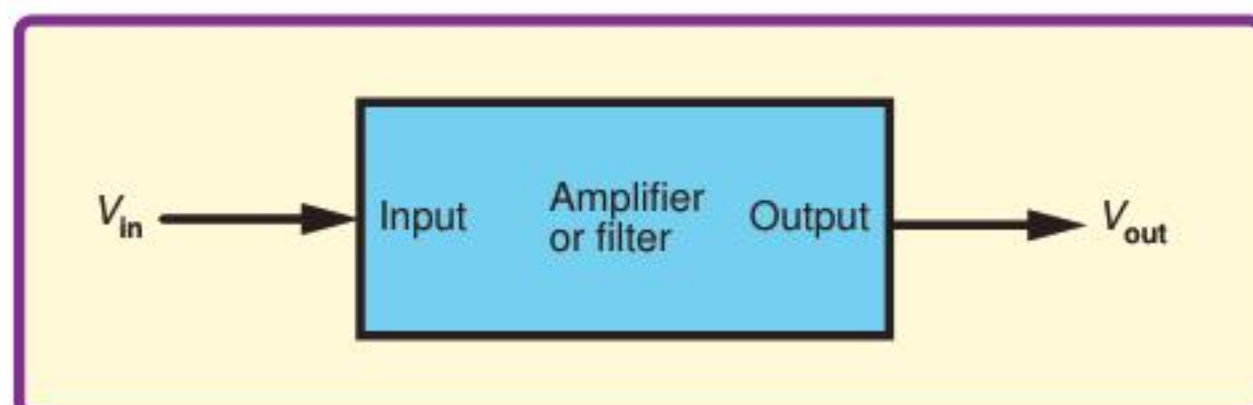
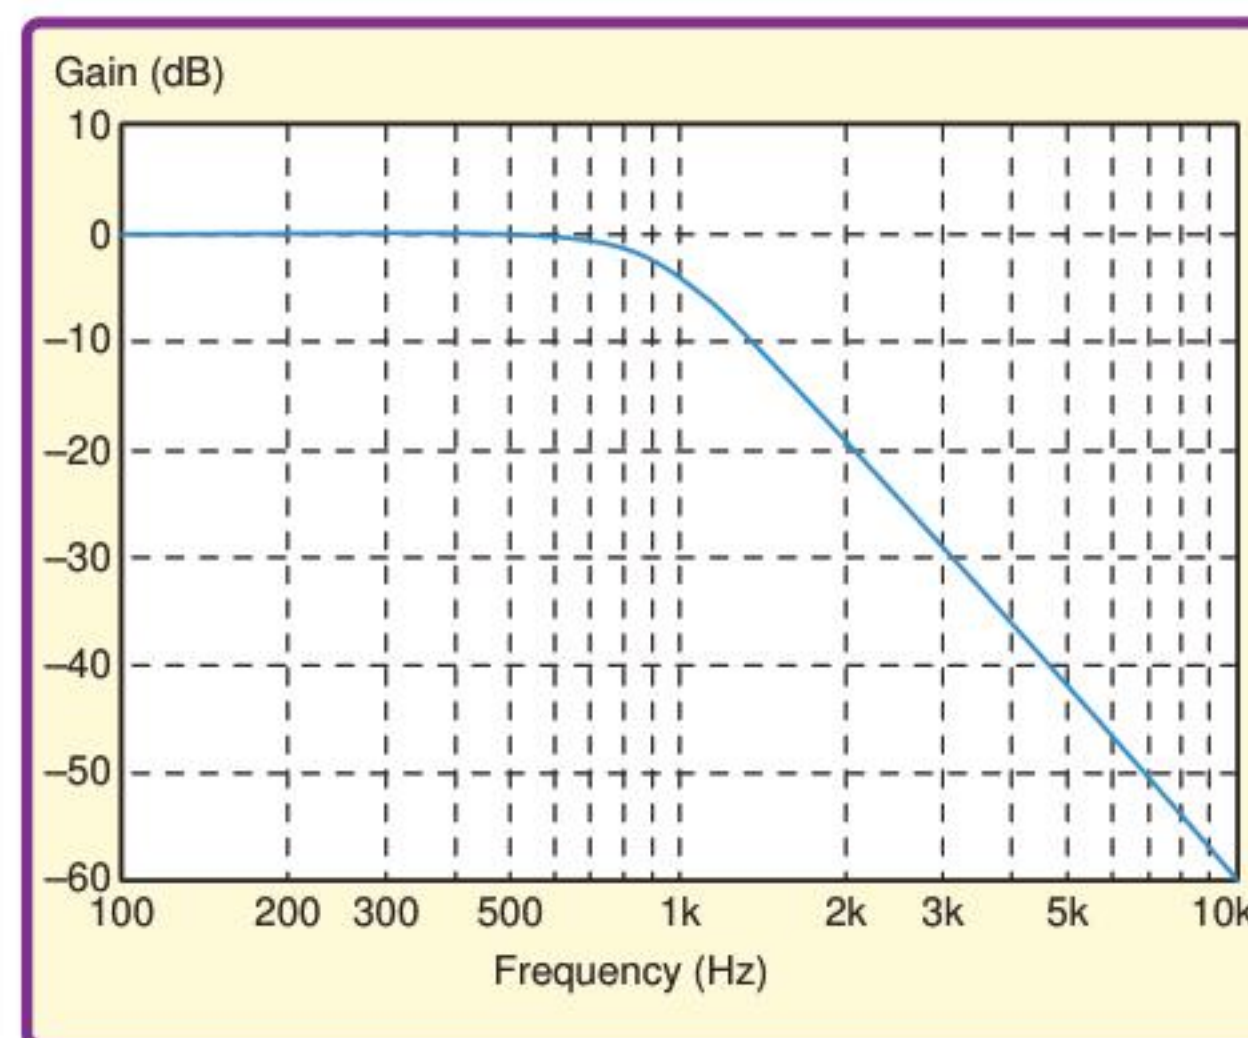
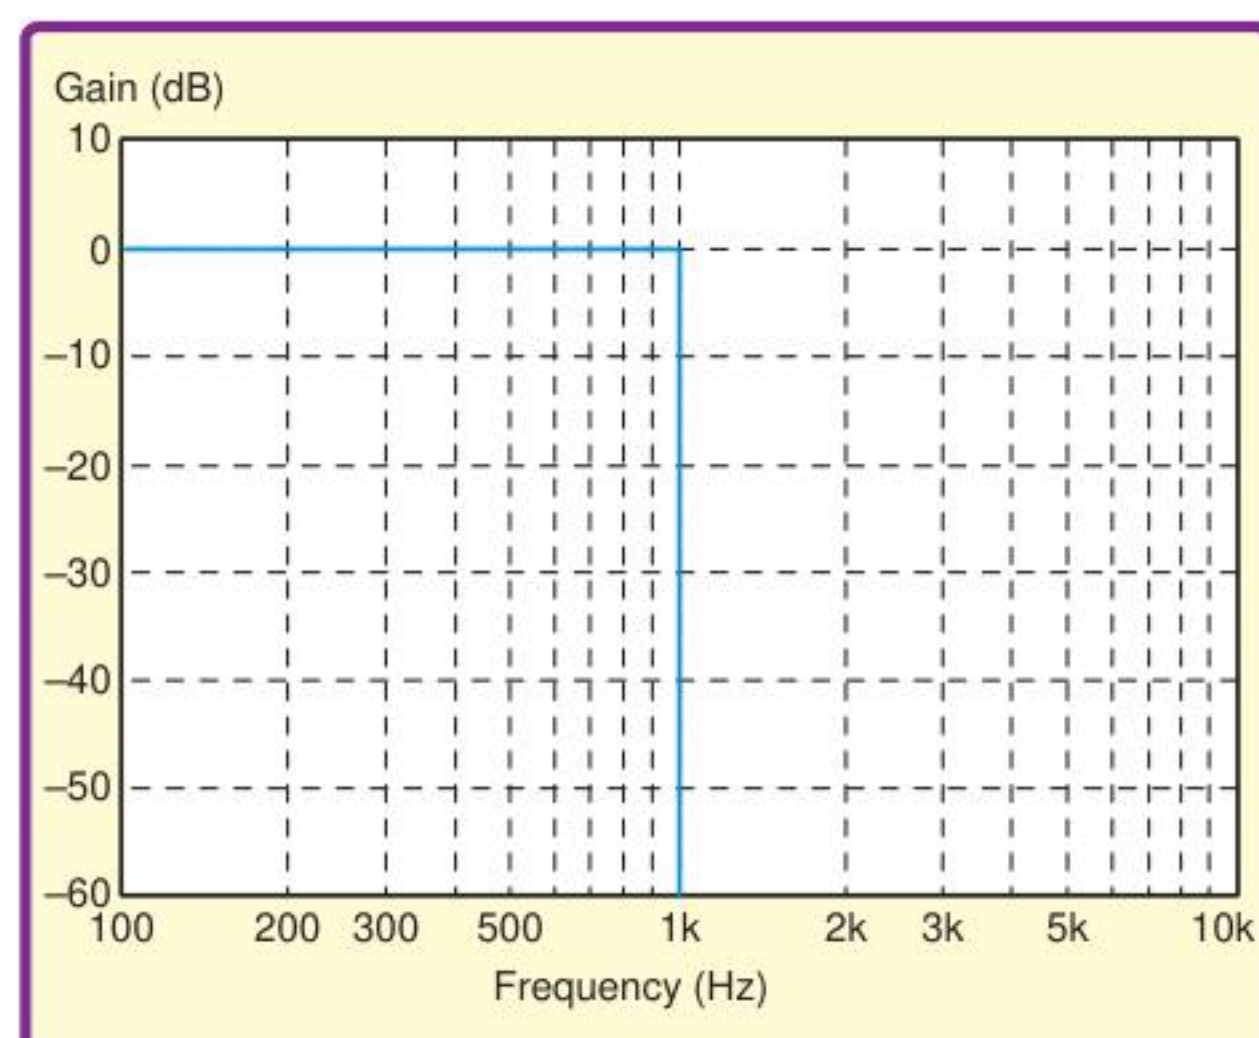

Fig.1. Simple electronic system; the gain is V_{out}/V_{in} .
Fig.2. Example frequency response graph of a 1.0kHz low-pass filter.
Fig.3. Frequency response graph of a 1.0kHz 'Brick Wall' low-pass filter. This perfect filter cannot be built as a real circuit.
Starting with circuit fundamentals, a filter or amplifier is an electronic system (see Fig.1) which reproduces the signal on its input (v_{in}) on its output (v_{out}). Typically, the output has different amplitude and power delivery capabilities. The ratio of output to input signal level v_{out}/v_{in} is the voltage gain (G) and very often (as in **741's** question) we are interested in how the gain of a circuit varies with frequency, known as the 'frequency response' of the circuit. Often, a frequency response is shown by plotting a graph of gain against frequency (see Fig.2, which we will discuss in more detail shortly). Such a plot can be obtained by measurement in a lab, by simulation or by plotting a mathematical function derived from analysis of the circuit. The frequency response graph can be used to help decide if a circuit is appropriate for
On the decibel scale, a gain of 1 is 0 dB, gains greater than 1 (amplification) are positive and gains less than one (attenuation) are negative. The graph in Fig.2 shows a filter with unity-gain at low frequencies and increasing attenuation at high frequencies. The scale points of -10, -20, -30, -40... correspond to attenuations of 1/3.2, 1/10, 1/32 and 1/100 respectively. To convert from a voltage gain (G) expressed in dB to a simple numerical gain find $10^{(G/20)}$. For a power gain use $10^{(G/10)}$.
An ideal low-pass filter would pass all signals below the cut-off and completely reject all signals above the cut-off. The frequency response graph would look like Fig.3. Unfortunately, this perfectly sharp cut-off, which is referred to as a 'brick wall' filter, cannot be physically implemented.
Instead, real filters have a more gradual decrease in gain in the transition from pass band to stop band; for example, the frequency response in Fig.2. The question then arises as to where the cut-off is taken to be along the smooth curve. The usual answer is that the cut-off is defined to be the frequency at which the output power from the filter falls to half that in the pass band, this is $10 \times \log_{10}(0.5) = -3$ dB. For example, for the response shown in Fig.2, the cut-off frequency is 1kHz (the same as the brick wall filter in Fig.3).